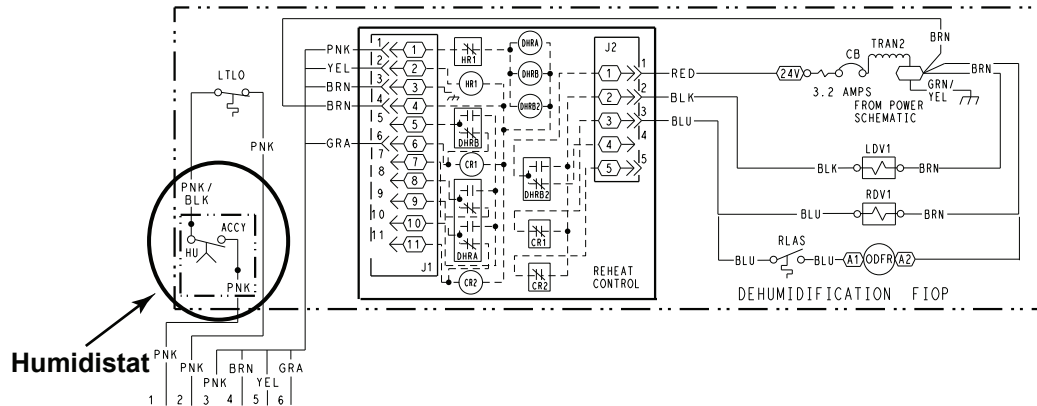

Fig. 64 — Typical Humidi-MiZer Adaptive Dehumidification System Humidistat Wiring
3. Use wire nuts to connect humidistat cable to two PINK leads in the low-voltage wiring as shown in Fig. 64.